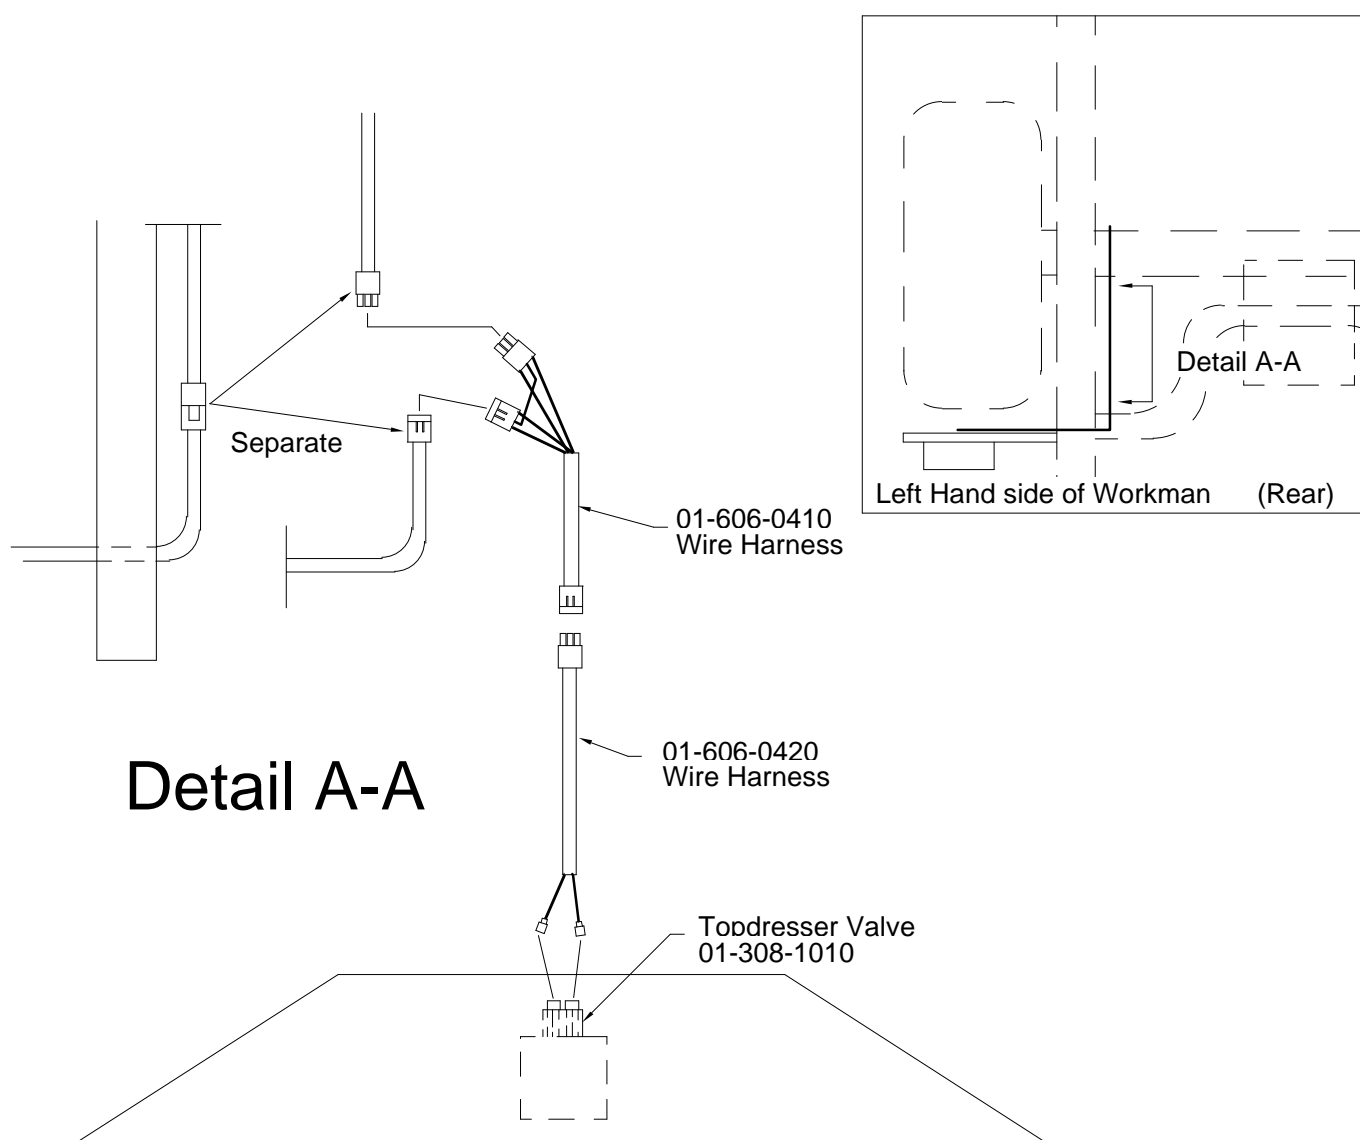

Figure 2
8. On the left hand side of the Workman, separate the harness going into the taillights as shown in Fig. 2.
9. Plug the wire harness (01-606-0410) into the harness as shown in Fig. 2. Plug the other end into the wire harness (01-606-0420) previously installed, that connects to the valve.